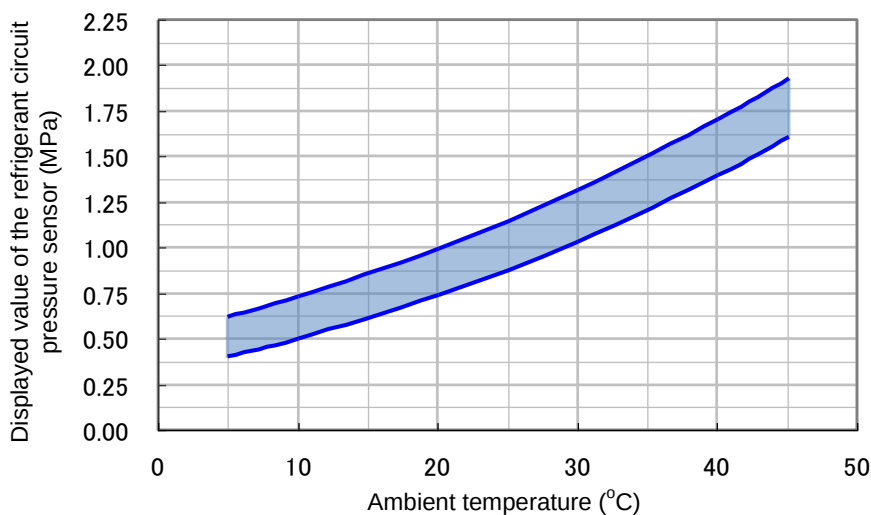

Fig. 3.3-44 Ambient temperature and refrigerant circuit pressure
- (1) Leave the Thermo-Chiller not operating for 24 hours to make the ambient temperature and the temperature inside the Thermo-Chiller the same.
- (2) Check the ambient temperature.
- (3) Check the "Ph: Refrigerant circuit pressure on the high pressure side" value in the "Check Monitor Menu".
- (4) Check if the value at the cross point of the ambient temperature and the "Ph: Refrigerant circuit pressure on the high pressure side" value is within the range (the shaded part) in Fig. 3.3-44. If the cross point is within the range, it means that the pressure sensor is operating correctly.
- (3) Check "PL: Refrigerant circuit pressure on the low pressure side" value in the "Check Monitor Menu".
- (4) Check if the value at the cross point of the ambient temperature and the "PL: Refrigerant circuit pressure on the low pressure side" value is within the range (the shaded part) in Fig. 3.3-44. If the cross point is within the range, it means that the pressure sensor is operating correctly.